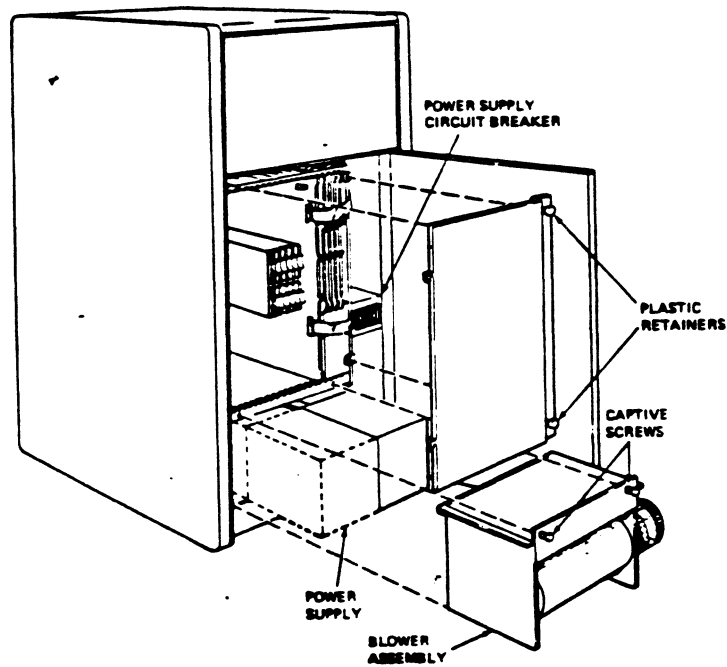

FIGURE 5-14 BLOWER ASSEMBLY REMOVAL
6. Slide the blower assembly out and up to remove it from the cabinet assembly. See Figure 5-14.